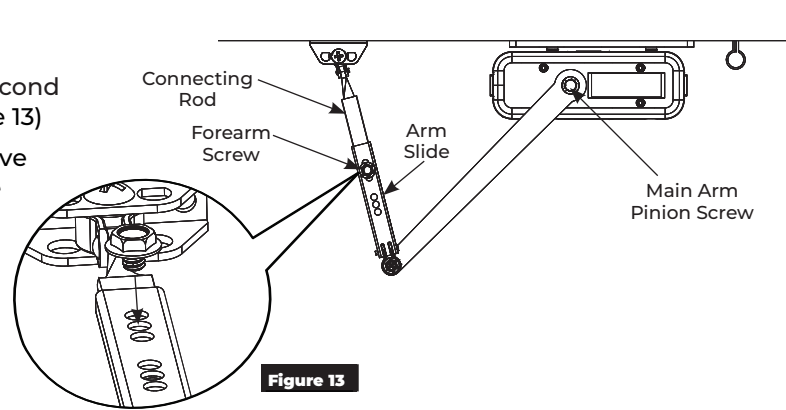

Figure 13
2. Install the main arm pinion screw. (Figure 13)
3. Slide the connecting rod into the arm slide. (Figure 13)
4. Install and tighten the forearm screw in the second hole from the end of the arm as shown. (Figure 13)